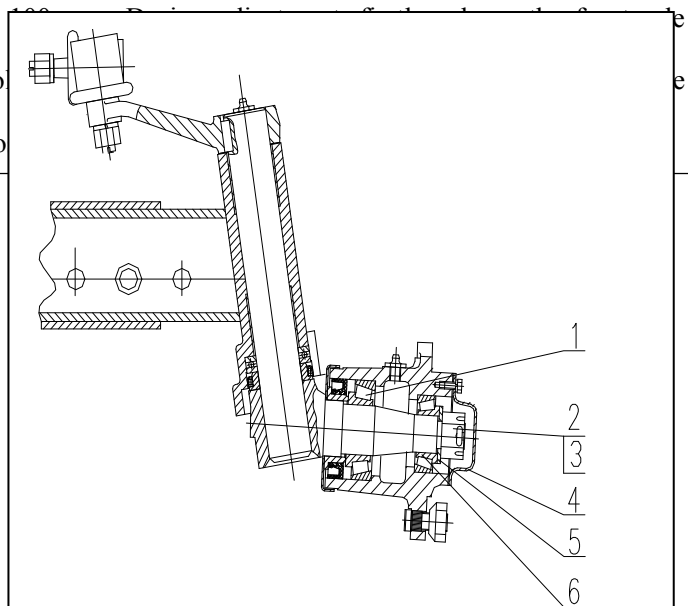

Fig. 5-11 Front wheel bearing axial clearance adjustment
- Front wheel bearing axial clearance adjustment (Fig. 5-11)